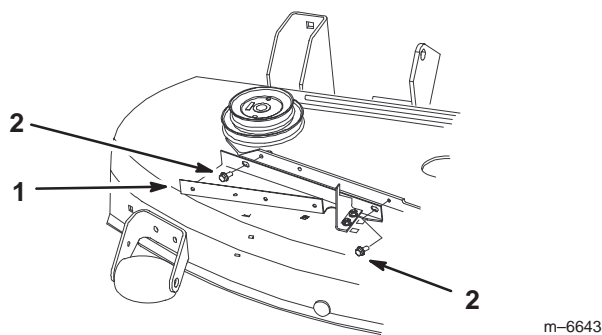

Figure 21
1. Mount the belt cover bracket into the holes used by the original cover with 2 thread forming flange screws (1/4 x 1/2 inch) (Fig. 21).